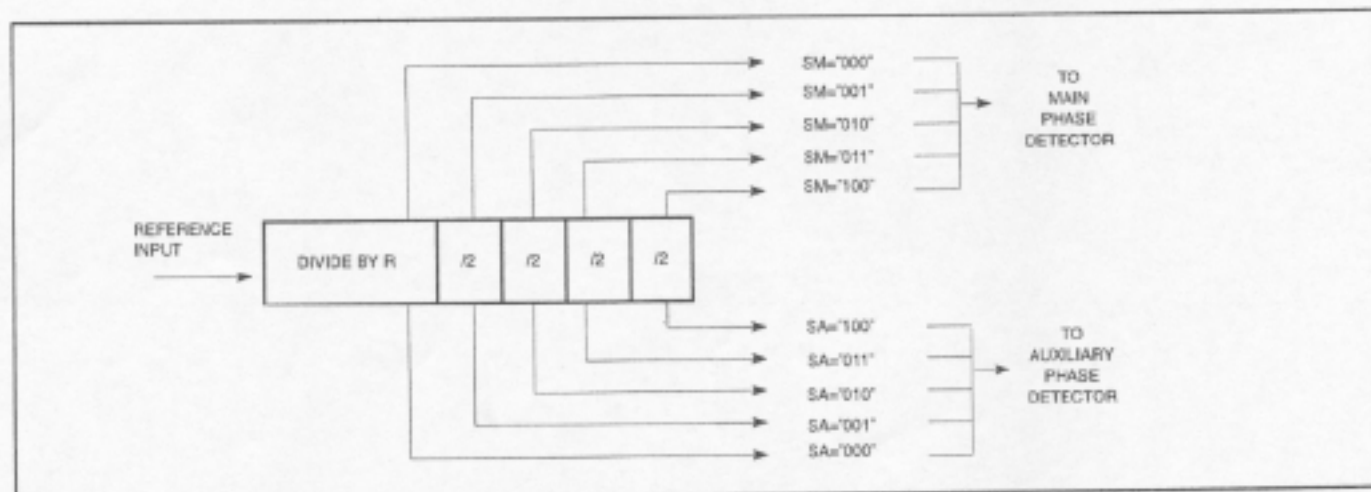

Figure 8. Reference divider
The reference divider consists of a divider with programmable values between 4 and 1023 followed by a three bit binary counter. The 3-bit SM (SA) register (see Figure 8) determines which of the 5 output pulses are selected as the main (auxiliary) phase detector input.